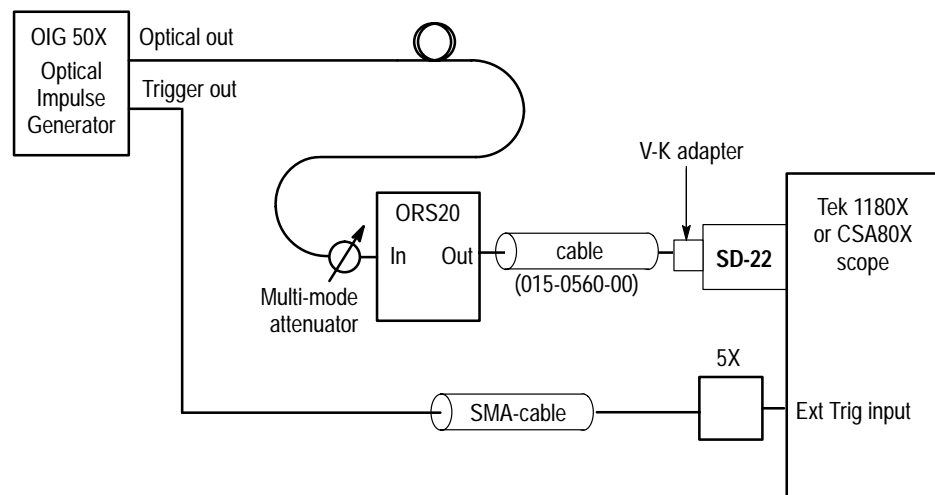

Figure 8: Setup for frequency response measurement using OIG 501/502
1. Connect the setup as shown in Figure 8. Note that this requires an SD-22 sampling head.